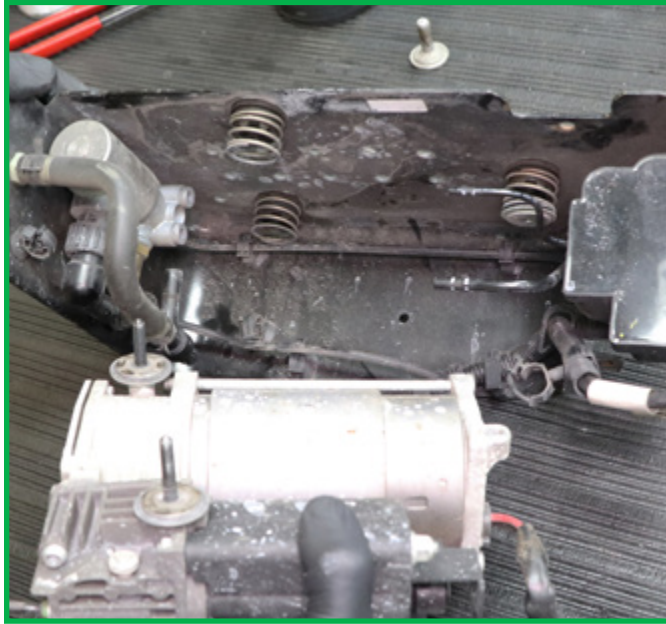

FIGURE 18
12. Separate the old compressor from the compressor/valve block assembly bracket. (Figure 18)